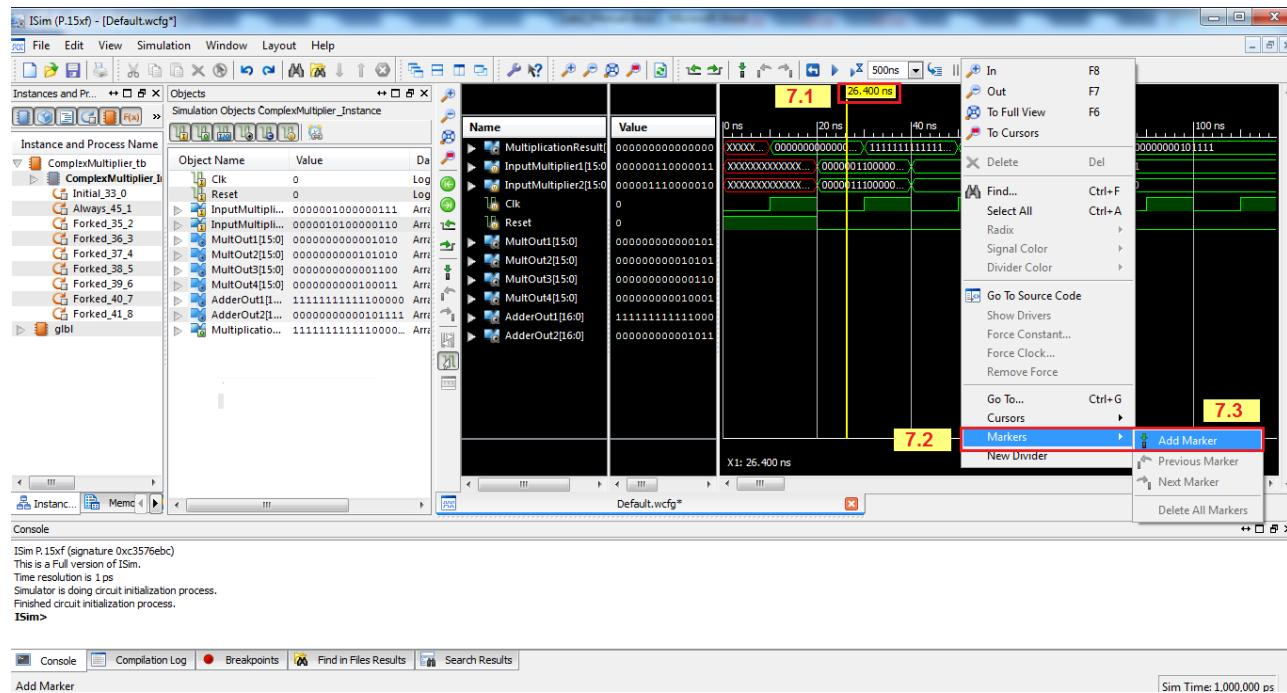

Figure 23.
7. Simulation Result Analysis (Figure 23)